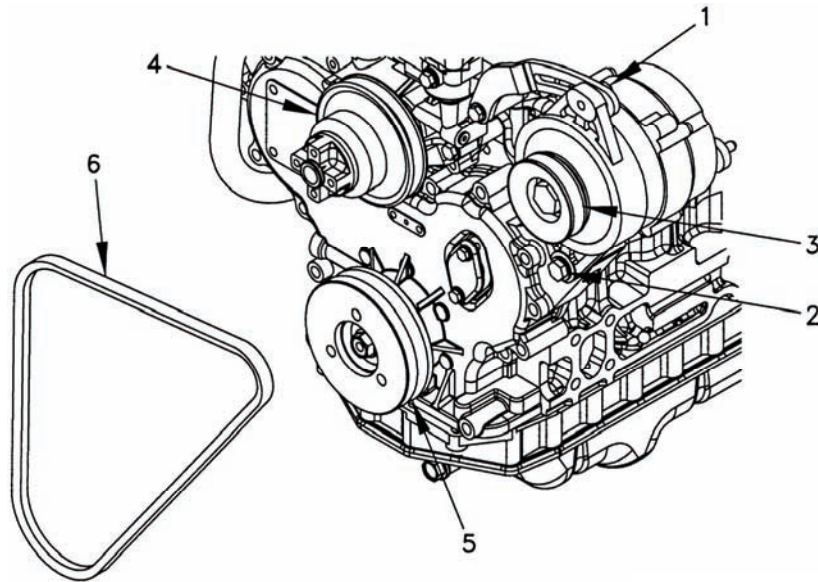

Figure 5-46. Fan Belt.
- c. Check fan belt (6, Figure 5-46) for proper tension using a suitable belt tension gauge. Belt tension shall be 70 pounds.
- d. If fan belt needs adjustment, loosen alternator mounting bolt (1) and nut (2).